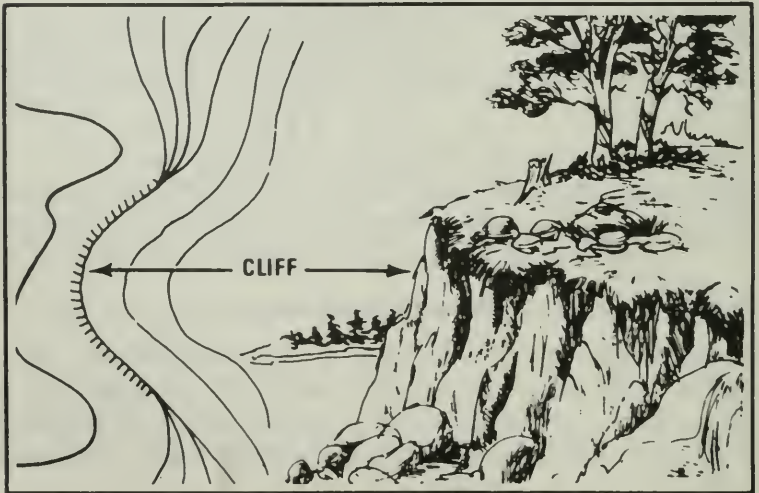

Figure 22. A Cliff.
a. Cliff (Figure 22). A vertical or near-vertical slope. A cliff may be shown on a map by contour lines being close together, touching, or by a ticked "carrying" contour line. The ticks always point toward lower ground.